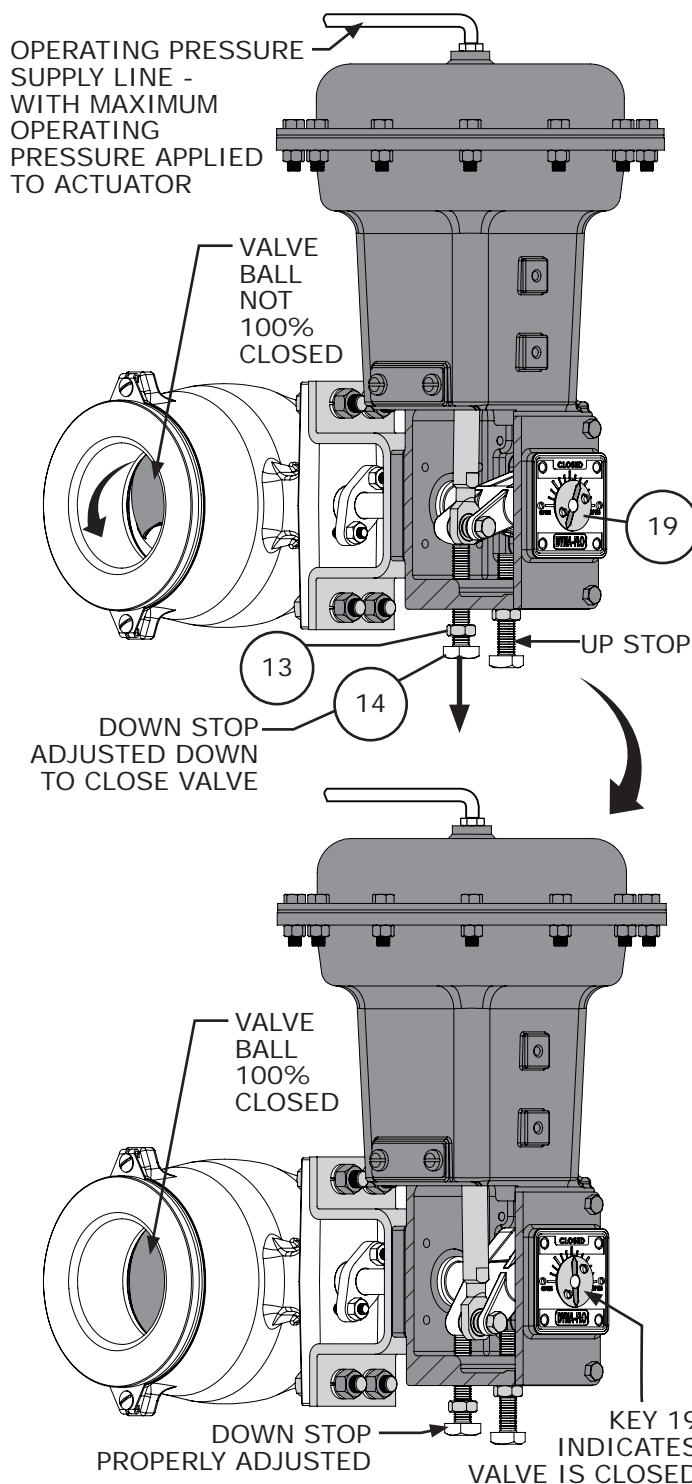

Figure 5 Mounting Adjustment for Push-Down-To-Close
- 11 Adjust the up travel stop (Key 14, Figure 5) until the valve ball/disc is in the desired position. **Note:** Refer to the appropriate valve instruction manual for information on valve travel and positions.
- 13 With operating pressure applied to the actuator, adjust the down travel stop (Key 14, Figure 5) until the travel indicator (Key 19) shows the valve ball/disc to be in the desired position. Refer to Figure 5 for a push-down-to-close valve configuration example.